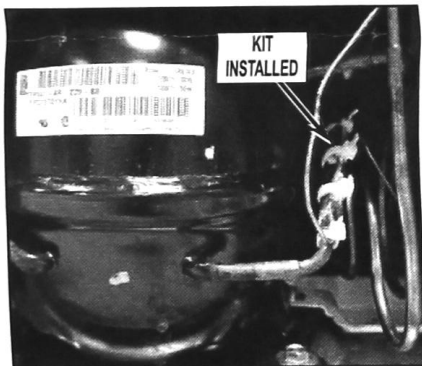

FIGURE 7
- Install two more wire ties on the foil tape approximately 1" in from each edge. Tighten securely. Cut off extra wire tie material. Check to make sure that none of the refrigerant tubes are touching. See *Figure 7*.